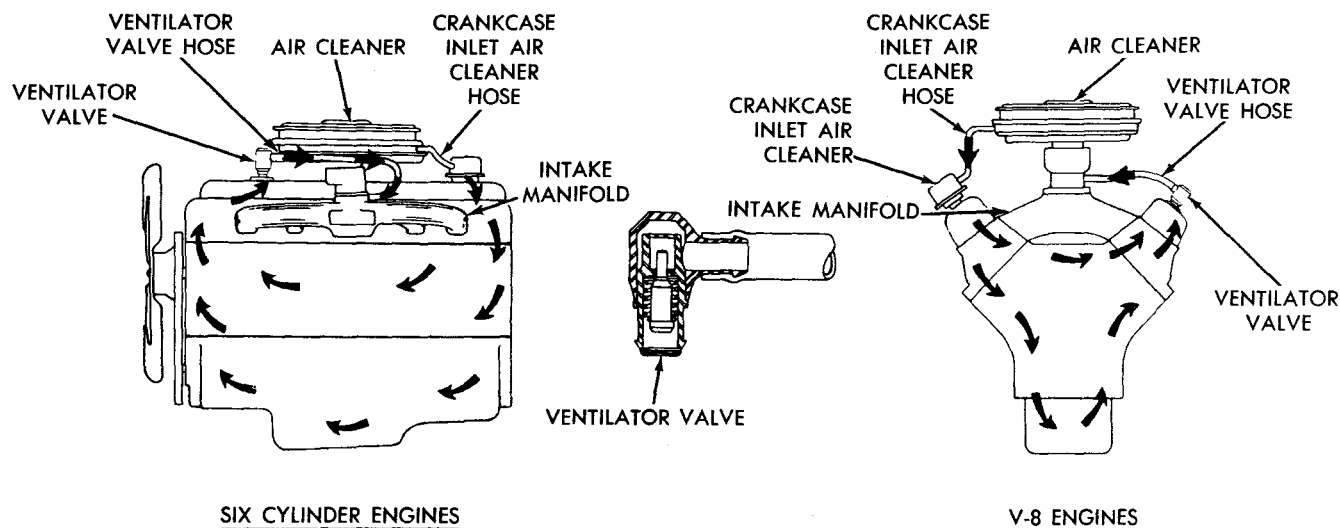

Fig. 2—Ventilation System (225-318-360-400-440 Cubic Inch Engines)
(1) A fully closed crankcase ventilation system is installed on all engines. The system operates on air drawn in from the air cleaner and through the crankcase inlet air cleaner by means of a hose (Fig. 2).